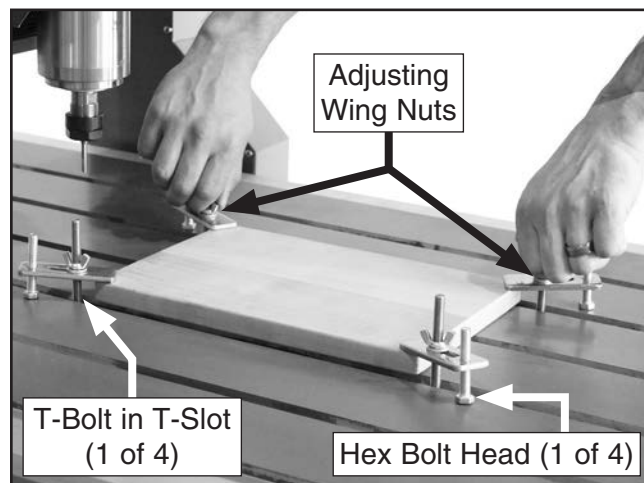

Figure 49. Example of clamping workpiece to table.
4. Slide T-bolts into T-slots, then adjust wing nuts and hex bolts so clamp plates are higher than workpiece (see **Figure 49**).
Note: Place a piece of scrap wood under the head of each hex bolt to prevent damaging table surface (see **Figure 49**).